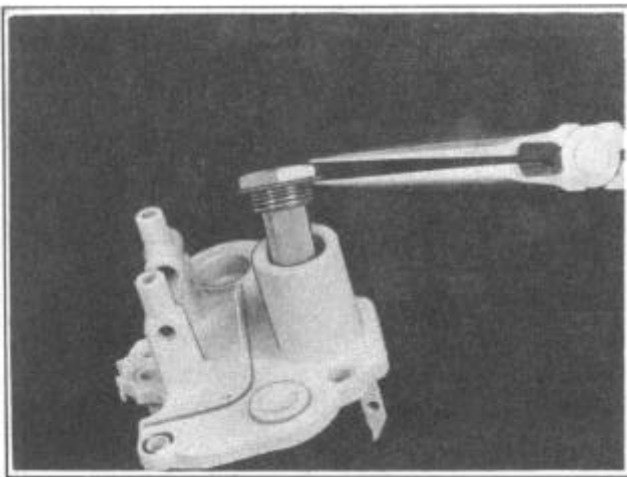

FIGURE 26
1. Remove bowl cover strainer nut, gasket, and strainer screen, Figure 26.